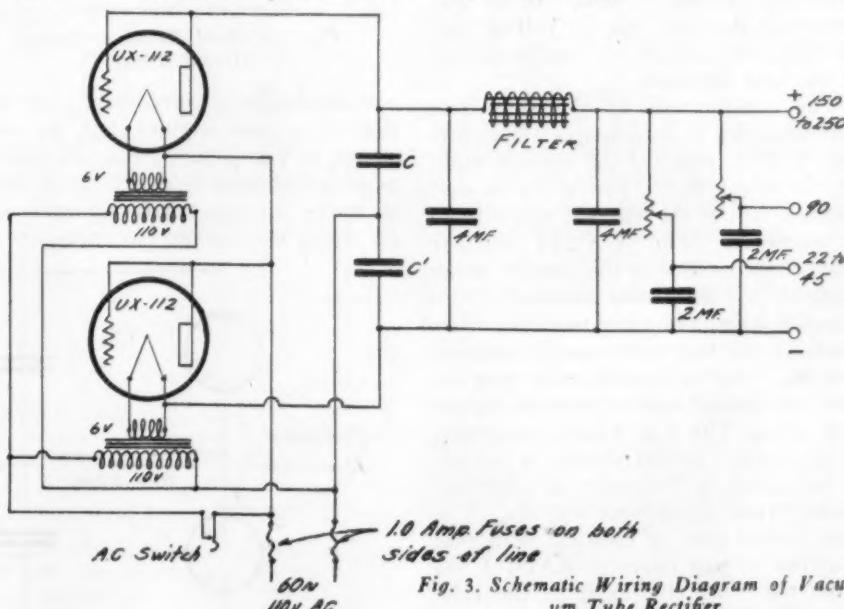

Fig. 3. Schematic Wiring Diagram of Vacuum Tube Rectifier.
- Necessary Bradleyohms and 2 mfd. condensers according to battery taps required. See Fig. 3.
Fig. 3 shows schematically the layout of the current supply set as finally arranged. It will be noted that separate transformers were used for lighting the filaments of the rectifier tubes. This is necessary, as were a single transformer used, one of the rectifiers would be shorted out. The transformer *T* shown in Fig. 1 was not used, the 110 volts being taken directly from the house supply.
The general appearance of the B eliminator is shown in the picture. Lay out the apparatus on a baseboard approximately 8x12 in. keeping the rectifier tubes, filament transformers and set shown is a good combination to use, for B supply lead when voltages lower than the UX-112 or UX-216-B tubes. Bradleyohms should be placed in the positive 150 are desired, as shown in Fig. 3. These resistances should be adjusted until the proper voltage is applied to the tubes, which may be determined best with a high resistance voltmeter. If one is not obtainable, and the set with which the eliminator is to be used is now operating of by-pass condensers in one group, and the filter at the other end of the board. If desired, the outfit can be mounted on a panel, so that the adjustments of the Bradleyohms may be more easily made. As the voltages in various parts of the circuit run as high as 250 volts, it would be preferable to wire the parts together with insulated lamp cord, but bus bar wire may be used if it is well insulated with spaghetti.